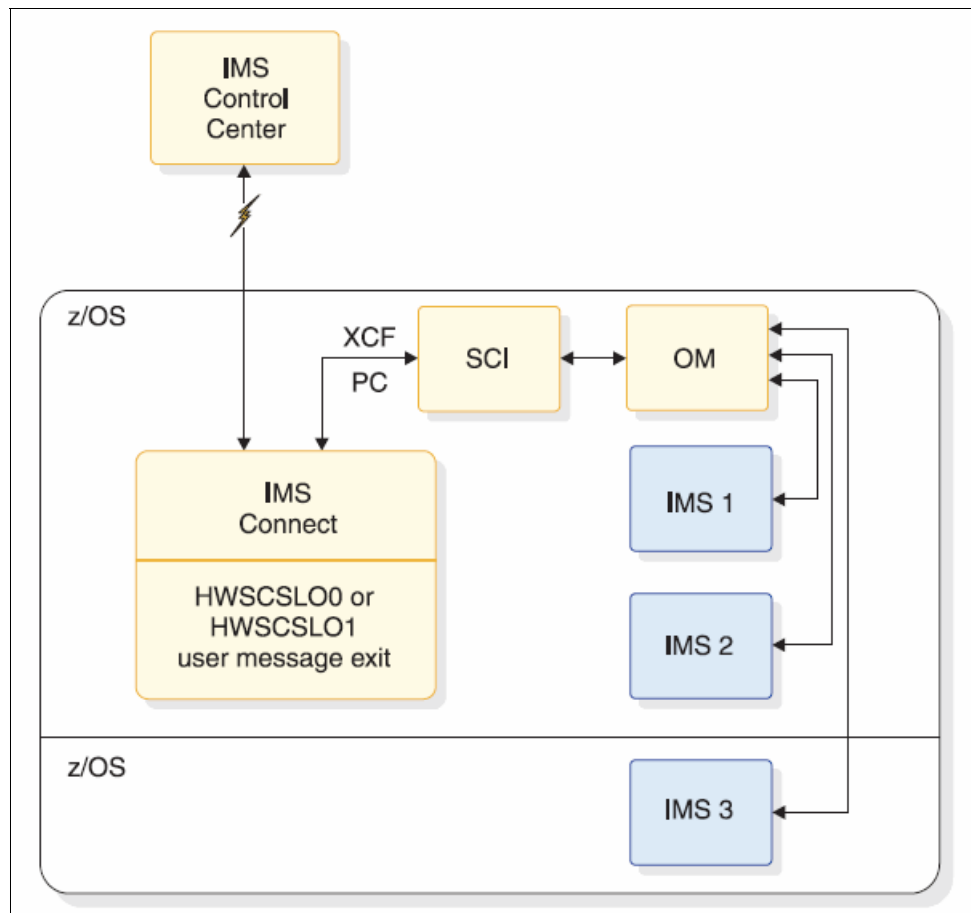

Figure 2-12 Overview of IMS Connect support for IMS Control Center
IMS Connect can send and receive IMS Operations Manager (OM) commands and response string messages between an IMS Control Center client and the OM in an IMSplex by using the IMS Structured Call Interface (SCI). Figure 2-12 shows the components that are associated with the IMS Control Center and IMS Connect.